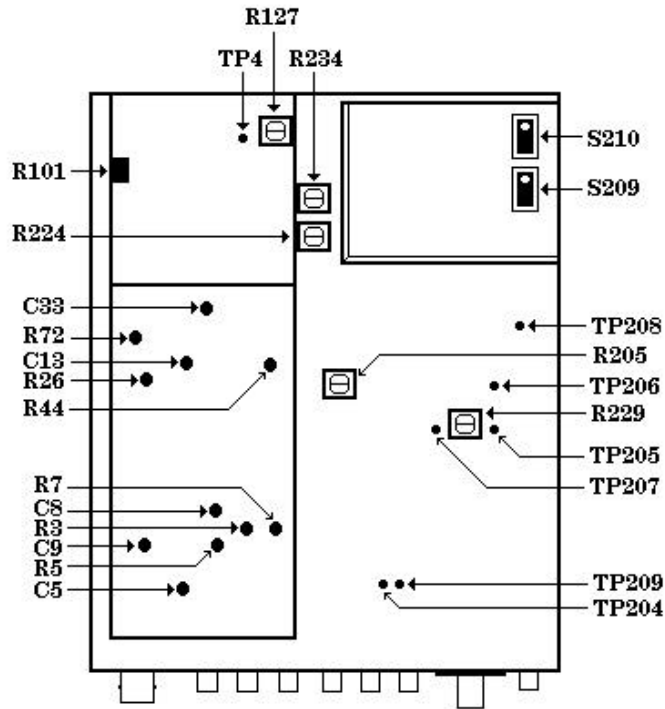

Figure 1. Test points and adjustment locations - top view.
**b.** Observe that slide switches S209 and S210 (fig. 1) are set for proper 120 V operation (both slide switches to left with white dot toward rear).
All test points and adjustments are shown in figure 1. Remove top cover only to make connections or adjustments and replace immediately upon completion.
- (1) Connect calibrator **OUTPUT HI** and **LO** to **TI INPUT**.
- (2) Press and release all front panel pushbuttons to the out position, except **POWER**.
- (3) Connect a short between TP204 and TP209 (fig. 1).
- (4) Set calibrator for a 1 V, 500 Hz output. Record TI indication.
- (5) Press **RANGE HOLD/AUTO** pushbutton to **HOLD**.
- (6) Set calibrator for a .1 V, 500 Hz output. If TI does not indicate one-tenth of value recorded in (4) above, perform **b(1)** and (2) below.
- (7) Press and release **RANGE HOLD/AUTO** pushbutton to **AUTO**.
- (8) Set calibrator for a 2.5 V dc output.
- (9) Press **FUNCTION AC+DC/AC** pushbutton to **AC+DC**. If TI does not indicate between 2.388 and 2.612 V, perform **b(3)** below.
- (10) Set calibrator for a .25 V dc output. If TI does not indicate between .2388 and .2612 V, perform **b(4)** below.
- (11) Press and release **FUNCTION AC+DC/AC** pushbutton to **AC**.
- (12) Set calibrator to output settings listed in table 3. If TI does not indicate within limits specified, perform appropriate adjustments.
1Interaction exists between R44 and R205 (fig. 1). Repeat both adjustments as required.
2Interaction exists between C8 and C5 (fig. 1). Repeat both adjustments as required.
- (13) Disconnect calibrator from TI.
- (14) Disconnect short from TP204 and TP209 (fig. 1).
- (15) Press and release **FUNCTION AC+DC/AC** pushbutton to **AC**.
- (16) Press **RANGE HOLD/AUTO** pushbutton to **HOLD** and **STEP UP** pushbutton to **20 mV** range.
- (17) Connect calibrator **OUTPUT HI** and **LO** to TI **INPUT**.
- (18) Set calibrator for a 23 mV, 500 Hz output.
- (19) Increase calibrator output in increments of 0.1 mV while observing TI **UNCAL** annunciator light. If annunciator light does not illuminate from between 23.5 and 24.5 mV, perform **b(5)** through (11) below.
- (20) Press and release **RANGE HOLD/AUTO** pushbutton to **AUTO**.
- (1) Adjust R101 (fig. 1) until TI indicates one-tenth of value recorded in **a(4)** above (R).
- (2) Press and release **RANGE HOLD/AUTO** pushbutton to **AUTO** and repeat **a(4)** through (6) above.
- (3) Adjust R72 (fig. 1) until TI indicates between 2.49 and 2.51 V (R).
- (4) Adjust R26 (fig 1.) until TI indicates between .249 and .251 V and repeat **a(8)** through (10) above (R).
- (5) Connect multimeter **INPUT HI** to TI TP4 (fig. 1) and **INPUT LO** to TI chassis ground.
- (6) Remove tape dot from adjustment R127 and turn R127 (fig. 1) fully ccw.